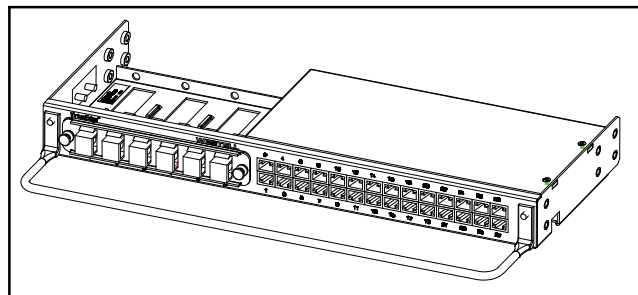
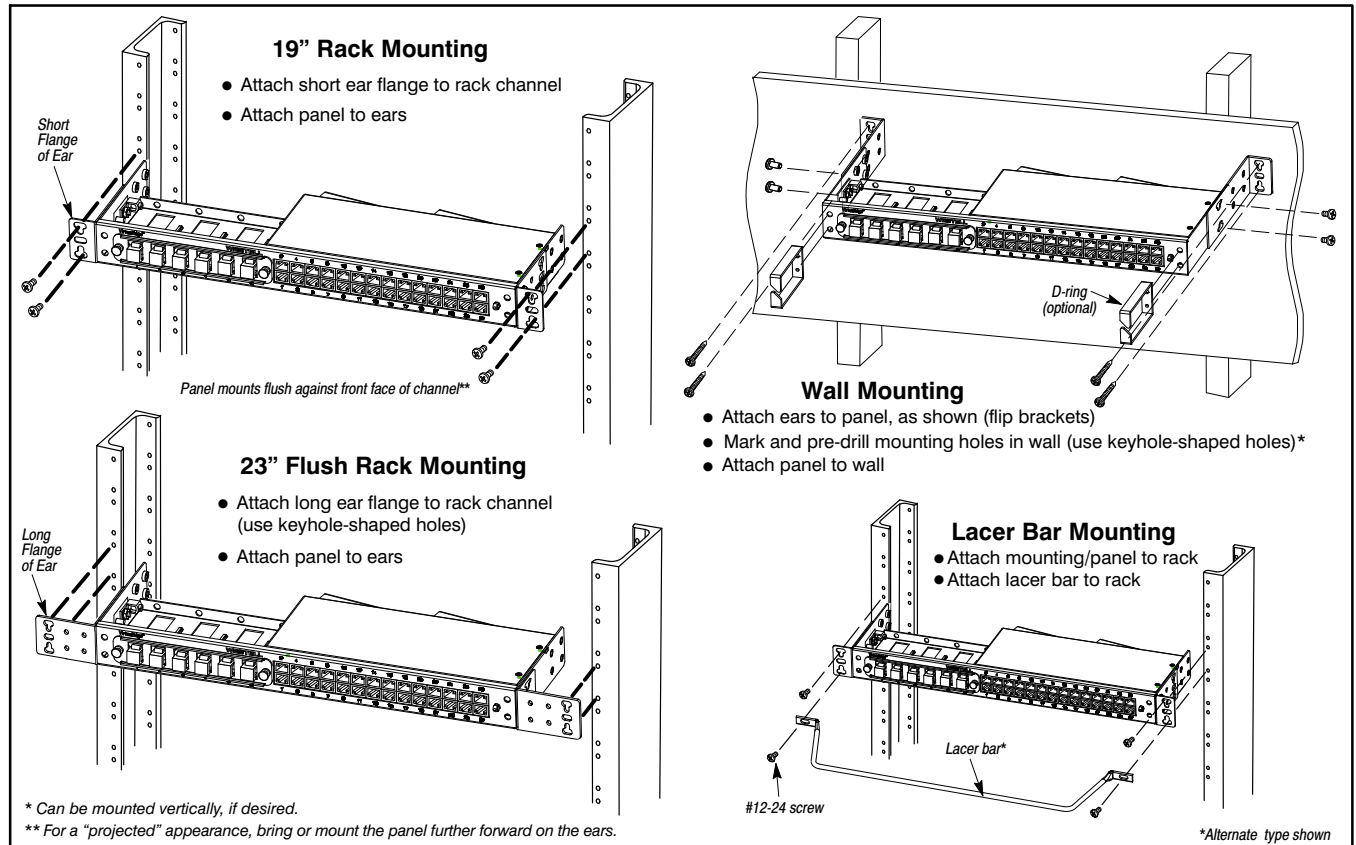
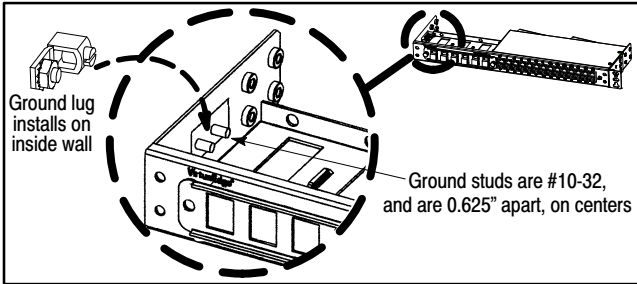

Figure 1. Isometric View of VirtualEdge Combination Panel
Figure 3. Mounting Views
Figure 4. Ground Lug Stud Location
This practice describes Westell's VirtualEdge® VE-2848C-K6 Combination Panel with six empty Keystone coupler positions and 28 RJ48C jacks, shown in Figure 1. Westell offers a variety of panels, couplers, cables, and other orderable options for terminating services for use with the VE-2848C-K6 panel or with other panels in the VirtualEdge family. See Table 4 for information.
Whenever this practice is updated, the reason will be stated in this paragraph. Revision B updated Table 1, Figure 3 and Paragraph 3.4 to show the lacer bar as an included item. Revision C adds the CLEI code, Table 2, Figure 4, Figure 5, and updates Figure 1, Table 3, and Paragraph 2.5.2.
The panels can be rack or wall mounted using the included reversible mounting ears (included in the bag of parts). These ears allow flush or projected positions in both 19" and 23" standard EIA relay racks, or they can be flipped and repositioned at the back of the panel for wall-mounting. See Part 2 and Figure 3 for more detailed mounting information.
The VE-2848C-K6 panel can be mounted on a wall or in 19" or 23" relay racks with standard EIA 1.75" hole spacing. When rack mounting, the panel can be installed so the front of it is flush with the front of the rack, or mounted in a projected position in the rack. The following paragraphs and Figure 3 provide further details. Screws to attach the mounting ears to the panel are provided, as well as screws to mount the panel to a rack.
2.4.1 The Westell VE panels are shipped with a ground lug (in a bag of parts) that accepts a #6 ground wire for wall-mount applications. The installer should locate the ground lug and hex-nut from the bag of parts shipped with the panel and install the lug on the post located on the panel's inside wall, securing the lug to the post with the nut (see Figure 3). The installer then makes an earth/chassis ground connection to the lug using a #6 ground wire, per local company practice and installation procedures for equipment grounding and bonding.